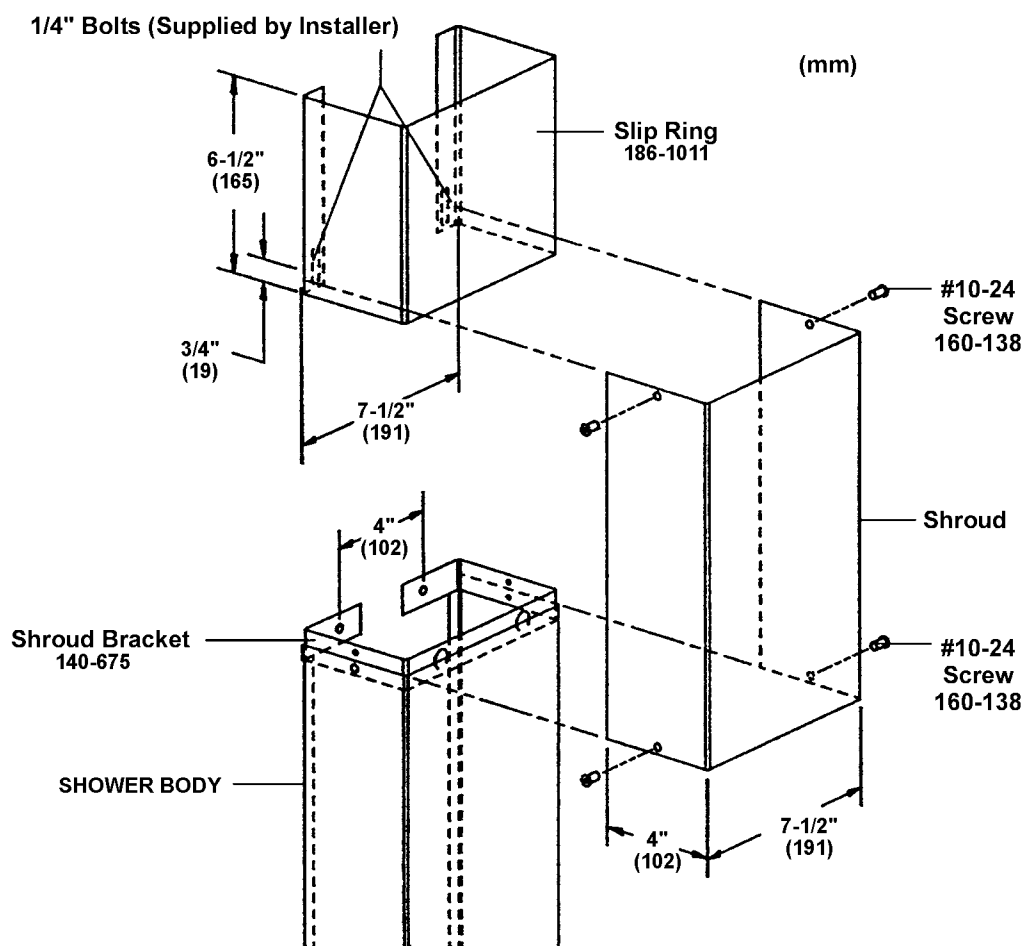

Figure 5
1. Position the slip ring against the ceiling and in line with the shroud bracket mounted on the wall (see Figure 5). Secure the slip ring to the wall with 1/4" bolts (supplied by installer).
2. With the bracket and slip ring secured, position the shroud in place and secure the shroud to the shroud bracket with the screws provided (see Figure 5).
4. Secure the shroud to the slip ring with the #10-24 screws provided (see Figure 5).